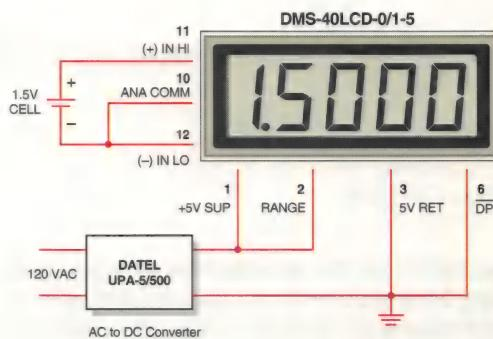
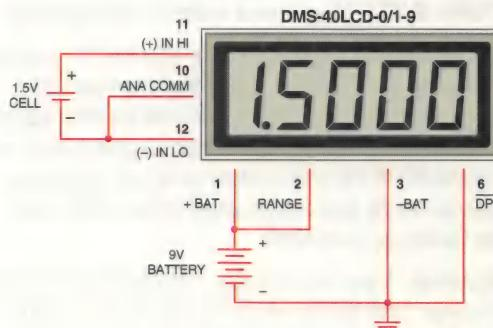

Figure 5. Floating Input Measurements (5V-Powered Models)
Figure 6. Floating Input Measurements (9V-Powered Models)
4. Floating Signal Source Measurements: Floating signals can be measured using the circuits shown in Figures 5 and 6. Figure 5 uses a 5V-powered meter. Figure 6 uses a 9V-powered meter. Both figures show a DMS-40LCD-0/1 with pin 2 tied to pin 1 yielding a $\pm 2V$ input range. Connecting pin 10 (ANALOG COMMON) to (-) INPUT LO (pin 12) provides the reference point for the meter's input.